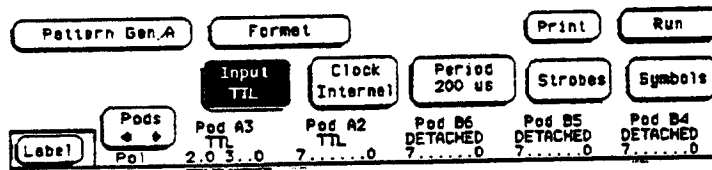

Figure 3-16. Set TTL Level
- e. Touch **Input** field to set input level to TTL as shown in figure 3-16.